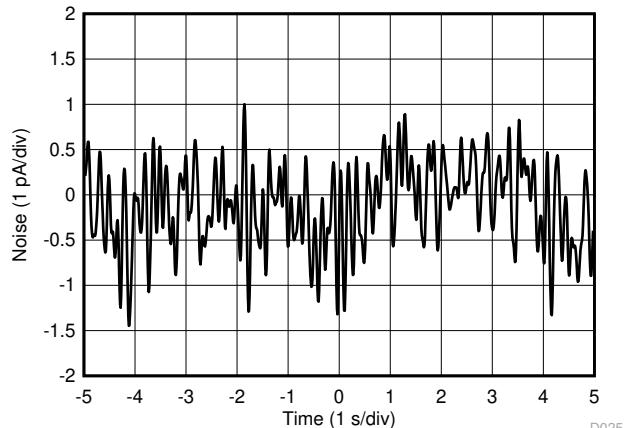

Figure 7-26. 0.1-Hz to 10-Hz RTI Current Noise
0.1-Hz to 10-Hz RTI Current Noise	<a href="#">Figure 7-26</a>